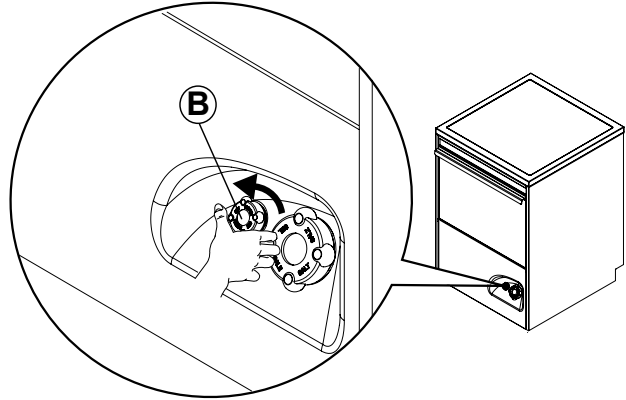

Figure 23
In undercounter models with incorporated continuous water softener, the rinse-aid container is located in the front panel of the appliance (Figure 23).
- Unscrew cap "B" (Figure 23) turning it anticlockwise.